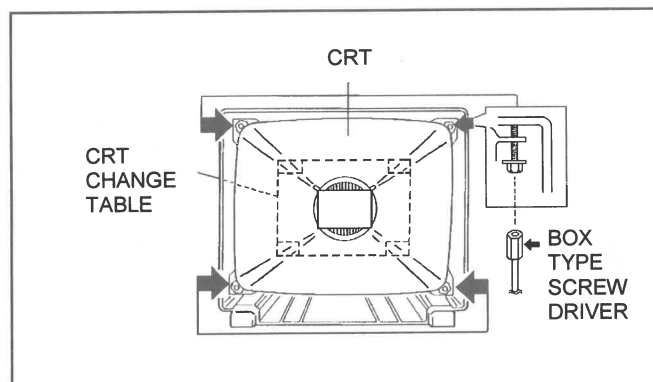

Fig. 4
- 2. While keeping the surface of CRT down, mount the TV set on the CRT change table balanced will as shown in Fig.4.
- 3. Remove 4 screws marked by arrows with a box type screwdriver as shown in Fig.4.